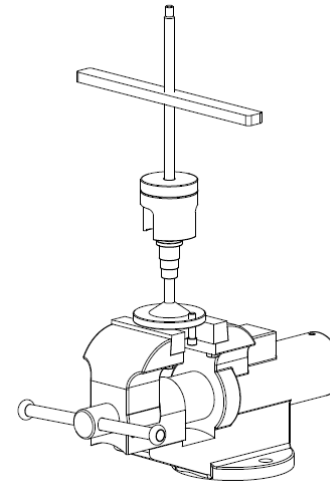

Figure 18
- Using a vice, mount the disassembly tool as shown in figure 18.